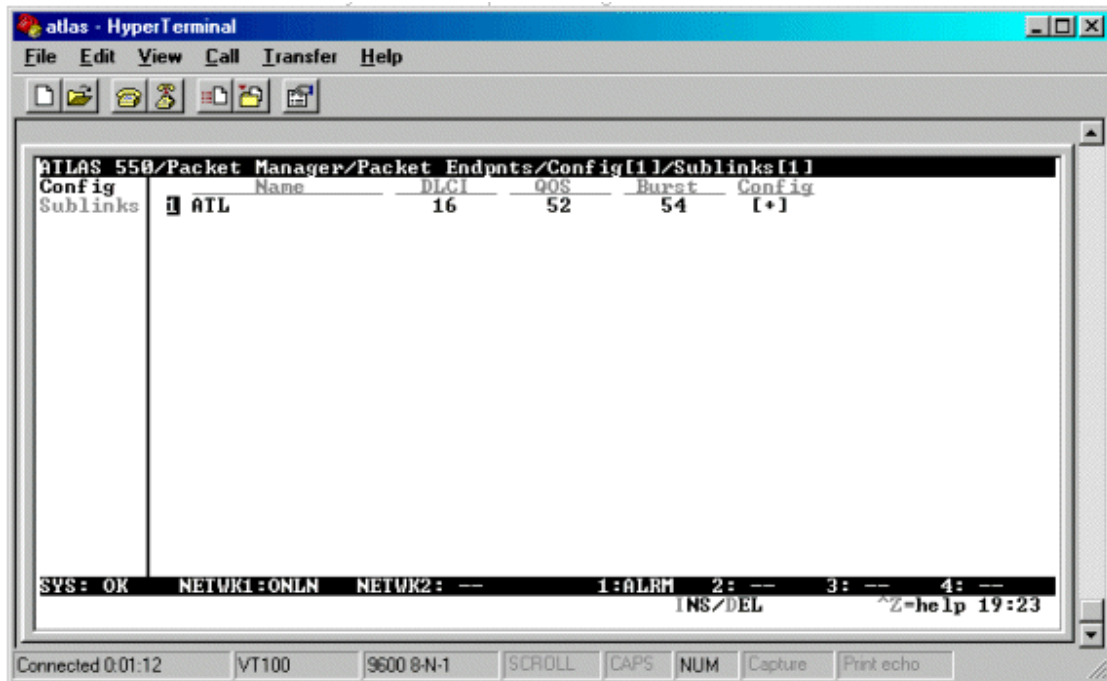

Figure 5
12. Set the **DLCI** to access that remote site. Configure the **DLCI** field to the local **DLCI** number the ATLAS should use to access the remote site. Since this is Private Frame Relay, you may choose the DLCI numbers. See **Figure 5**.
13. Set the **QOS** and **Burst** for each PVC. These fields limit the amount of bandwidth that data traffic will consume so that voice traffic will have enough bandwidth to be transmitted in a time-sensitive manner. **QOS** represents the bandwidth in kbps to be used by this PVC for data traffic. It is a guaranteed bandwidth for that PVC. A value of zero **QOS** means that data traffic on this PVC will not be limited. **Burst** represents the bandwidth in kbps that the data traffic can burst up to. A value of zero **Burst** means that the bursting of data traffic above the QOS will not be limited. For more information on **QOS** and **Burst**, highlight these fields and press **Ctrl-A**. **Figure 5** shows that the *Atlanta* sublink has been configured for a **QOS** of 52 and a **Burst** of 54. This means that the data traffic will consume a maximum of 54kbps on this PVC.